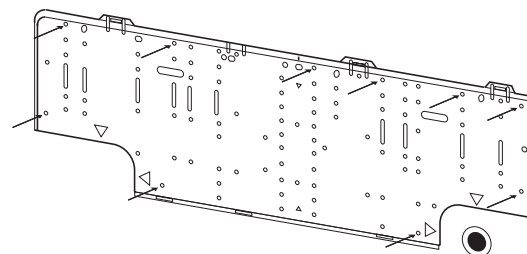

Fig. 3-25
- (1) Attach the rear panel to the wall with the 10 screws provided. (Fig. 3-25)